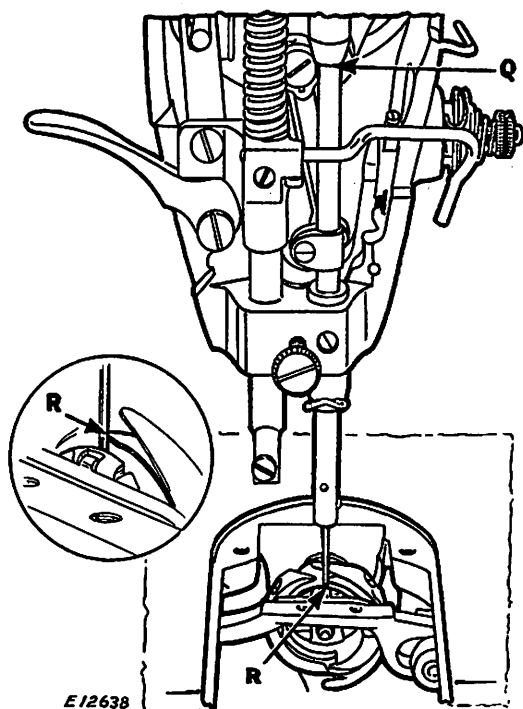
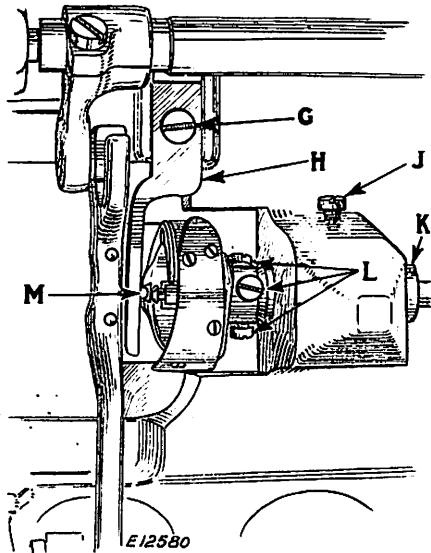
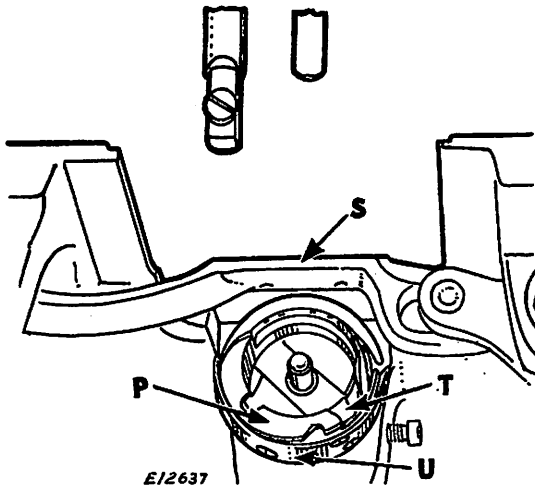

Fig. 21. Needle and Sewing Hook Correctly Timed
Fig. 22. View of Underside of Machine
Fig. 23. Showing Correct Position of Thread Guard (U) and Bobbin Case Holder (P) for Removal of Sewing Hook
To determine that the hook is correctly timed, place a new needle in the machine, then turn the balance wheel over toward you until the LOWER TIMING MARK on the needle bar is centered with the lower end of the needle bar bushing as shown at (Q, Fig. 21) when the needle bar is on its upward stroke. With the needle bar in this position, the point of the hook should be at the center of the needle as shown at (R, Fig. 21). The inset in circle at the left of Fig. 21 plainly shows this position of the hook point relative to the needle.
In case the hook is not correctly timed, loosen the three screws (L, Fig. 22) in the hub of the hook. These three screws can be reached from the top of the machine bed through the open-
ing left by the removal of the throat plate, although, for purposes of illustration, the screws are shown only in the view of the underside of the machine in Fig. 22. Rotating the balance wheel of the machine will bring these screws, one at a time, directly under the throat plate opening where they can be easily reached with a screwdriver from the top of the machine bed.
After loosening the three screws (L, Fig. 22) turn the hook on its shaft to bring the point of the hook at the center of the needle as shown at (R, Fig. 21), then tighten the three screws (L, Fig. 22).
The hook should be set as close as possible to the needle without touching. If the hook is too close to the needle or too far away from it, loosen the three screws (L, Fig. 22) and the bushing screw (J, Fig. 22) and drive the bushing (K, Fig. 22) in or out, as may be required, until the hook just clears the needle, being very careful not to damage the bushing, then securely tighten the bushing screw (J) and the three screws (L).
Remove the needle, slide plate and bobbin case. Take out the screw (G, Fig. 22) and remove the bobbin case holder position
bracket (H, Fig. 22). Loosen the three set screws (L, Fig. 22) in the hub of the hook, then turn the balance wheel over toward you until the feed bar (S, Fig. 23) is raised to its highest point. Turn the sewing hook until the thread guard (U, Fig. 23) is at the bottom, as shown in Fig. 23, and turn the bobbin case holder (P, Fig. 23) until it is in the position shown in Fig. 23. The sewing hook can then be removed from the hook shaft.
When placing a new sewing hook on the shaft, have the thread guard (U) of the hook at the bottom and the bobbin case holder (P) turned to the position shown in Fig. 23, so that the hook will clear the feed bar (S).
When the hook is in position on the shaft, turn the bobbin case holder (P, Fig. 23) until the notch (T, Fig. 23) is at the top, then replace the bobbin case holder position bracket (H, Fig. 22) being careful to see that the position stud (M, Fig. 22) enters the notch at the top of the bobbin case holder, as shown in Fig. 22,
then securely fasten the position bracket by means of the screw (G, Fig. 22). Replace the needle and time the sewing hook as instructed on pages 17 and 18. When tightening the three screws (L, Fig. 22) in the hub of the hook, draw the hook shaft toward the needle bar end of the machine and press the hook toward the balance wheel to take up the end play in the shaft. Then replace the bobbin case and slide plate.